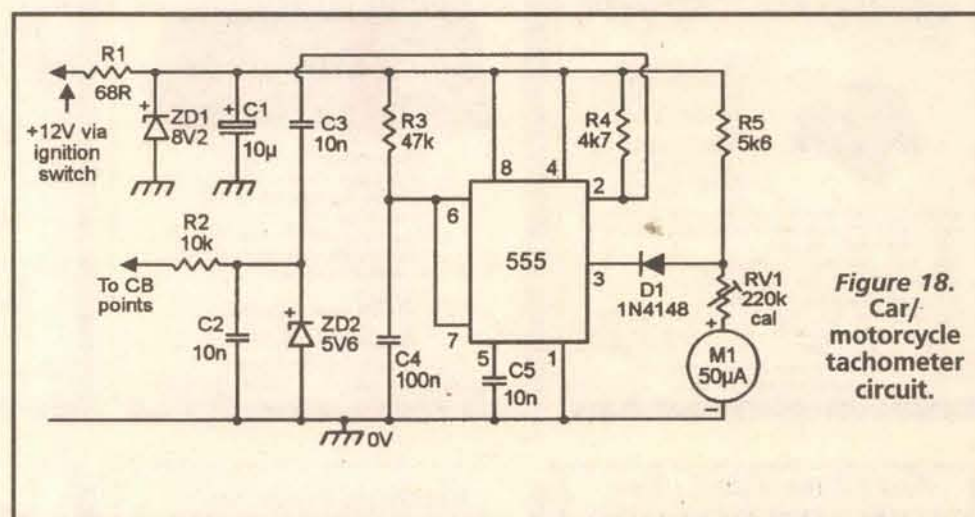

Figure 18. Car/motorcycle tachometer circuit.
Figure 18 shows the circuit modified as an analog tachometer (RPM meter) for use in cars or motorcycles. It is powered by a regulated 8V2 supply (derived via the ignition switch) and is triggered by the vehicle's contact breaker (CB) points via the R2-C2-ZD2 waveform-conditioning network. The circuit action is such that current is applied to the 50µA FSD meter via R5-RV1 and the IC supply line when the IC output is high, but is reduced to